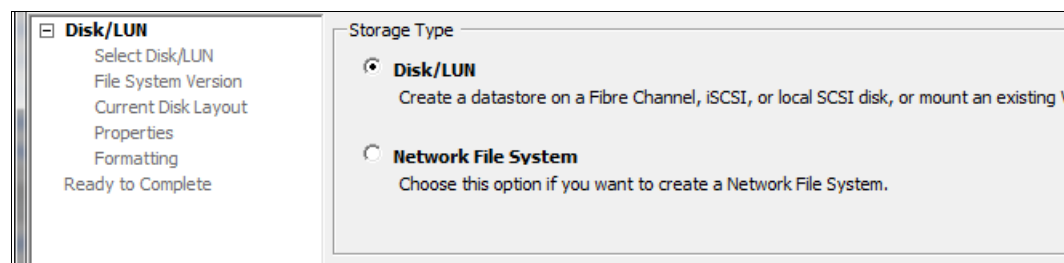

Figure 7-9 Select Storage Type
- a. In Figure 7-9, select storage type **Disk/LUN** and click **Next**.